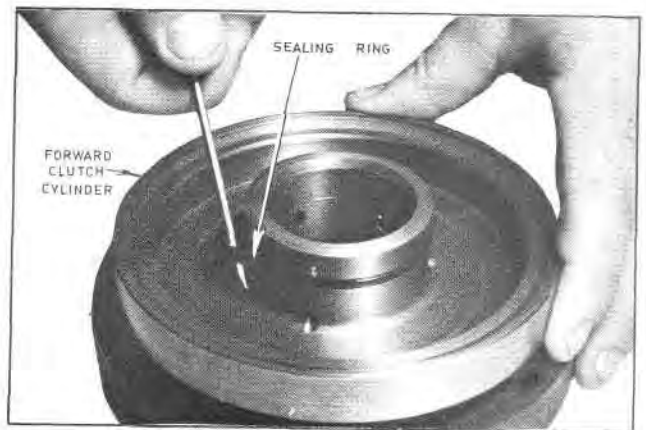

Fig. G38 — Forward Clutch Cylinder Seal Ring
25. Remove the clutch sealing rings from the clutch cylinder and clutch piston (Figures G38 and G39).